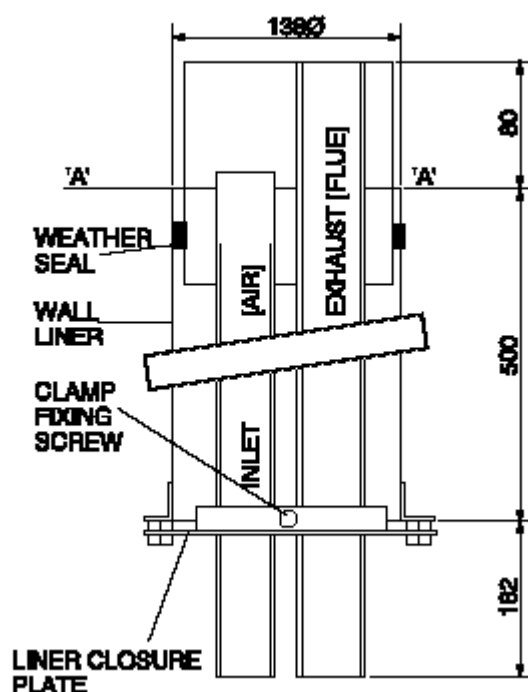

Fig. 17.1 Extended flue terminal assembly
- Mark wall thickness measurement on terminal air/flue pipes using datum 'A' shown in Fig. 17.1. Fix liner closure plate on to the pipes at this length using the clamp attached. Avoid crushing pipes with clamp. If either pipe requires cutting to length (eg to allow bends to be fitted) do this now.
- Smear a film of sealant (approx 0.5mm thick) around the male pipe surfaces before pushing pipes firmly together. Select the duct bend (if required) and insert pipe bends. Push plain end of pipe bends into pipe sockets. Repeat above procedure to reach terminal. Ensure that air inlet and flue gas connections are correctly made as indicated in Fig 17.1.